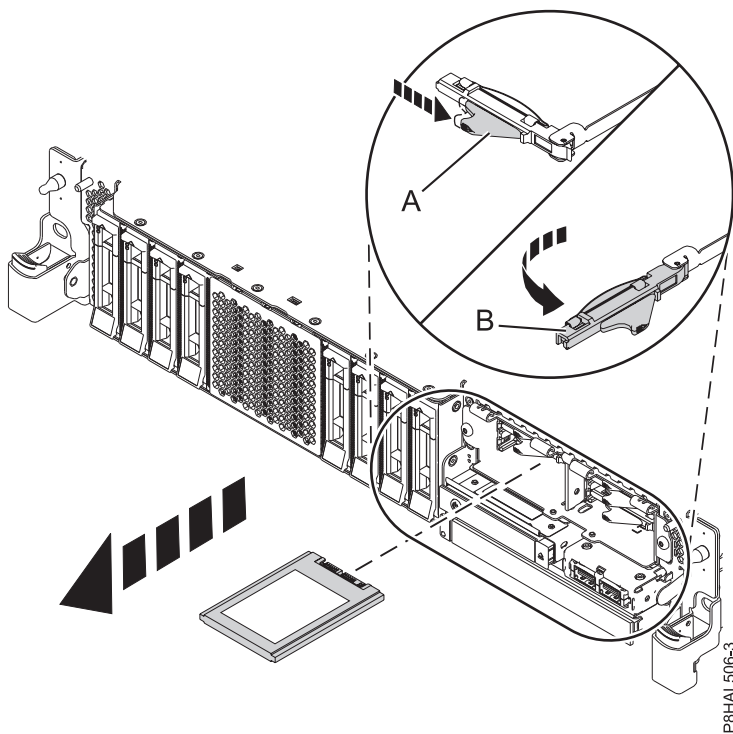

Figure 43. Removing an SSD from an expanded function system
11. Unlock the drive bay handle (B) by pushing the handle latch (A) in the direction that is shown and pulling the drive handle (B) out toward you, as shown in Figure 43. If the handle is not all the way out, the solid-state drive cannot slide out of the system.